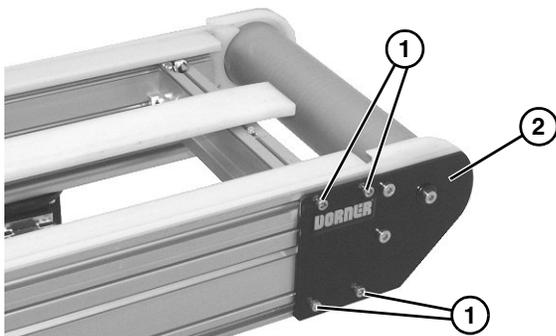

Figure 43
2. On one side of conveyor, loosen the four socket head screws (Figure 43, item 1). Repeat on opposite side.
3. Remove idler tail assembly (Figure 43, item 2).